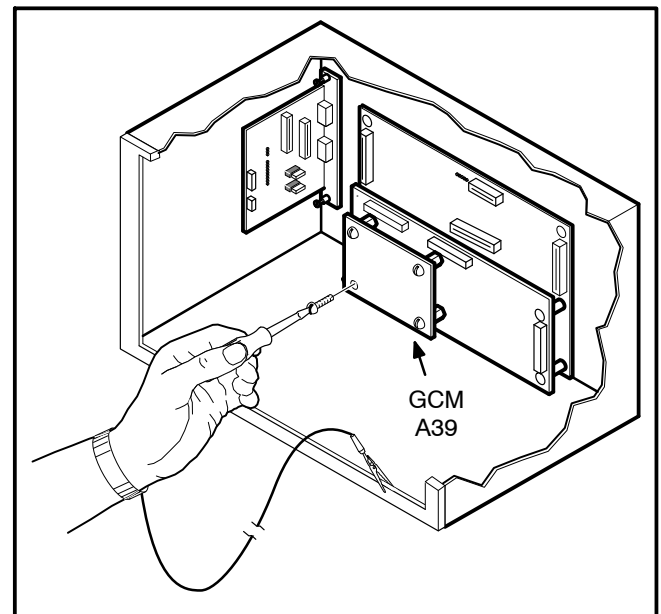

FIGURE 8-5. GCM MOUNTING
7. Mount the GCM as shown in Figure 8-5, use the screws removed from the analog board. Tighten the mounting screws securely.